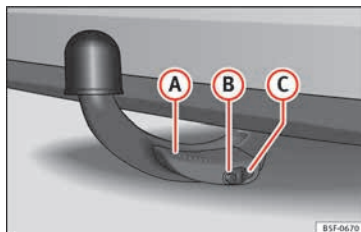

Fig. 226 Detachable ball properly attached
- Lever ① » Fig. 226 is fully raised.
- The release bolt ② » Fig. 226 is sticking fully out (the red and green part is visible).
- Cover ③ » Fig. 226 is placed over the lock.